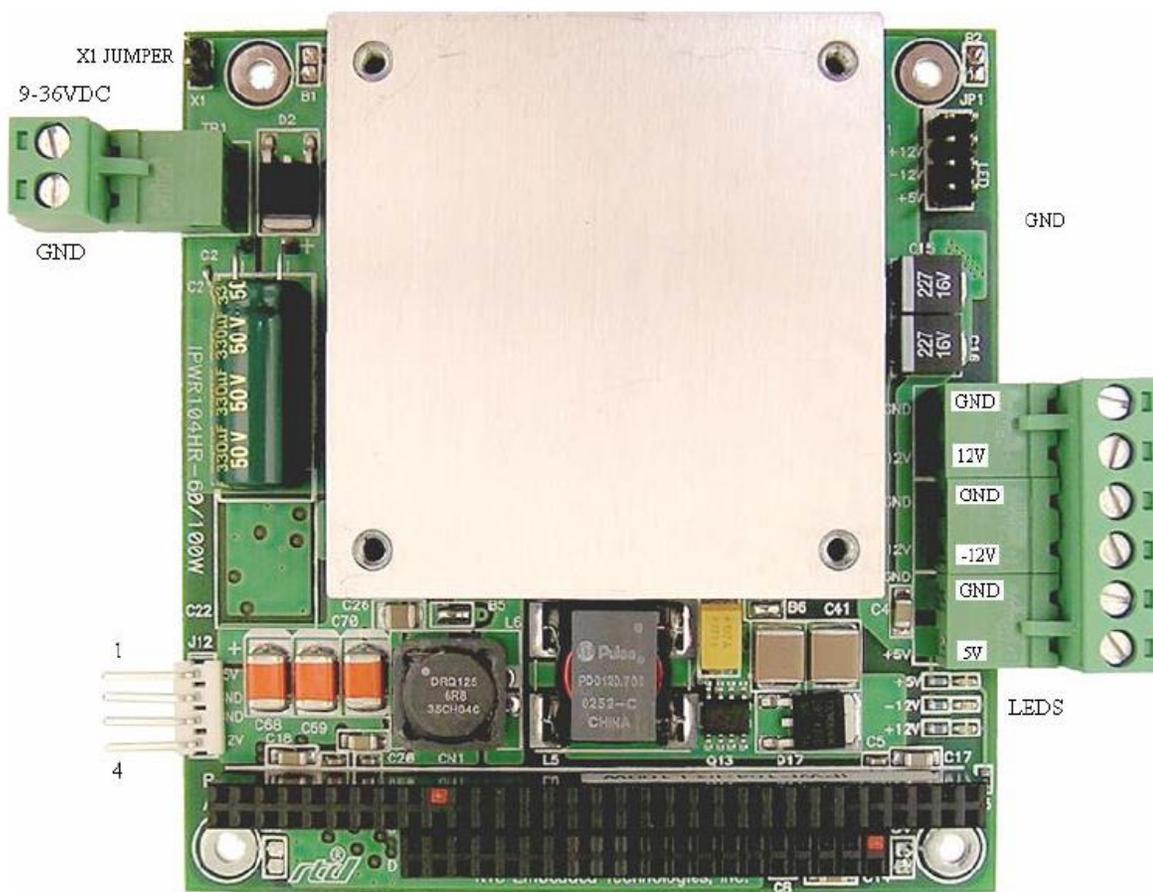

Fig. 1-3 IPWR104HR power supply power connections (IPWR104HR-L100W shown)
- Fig. 1-3: IPWR104HR power supply power connections**